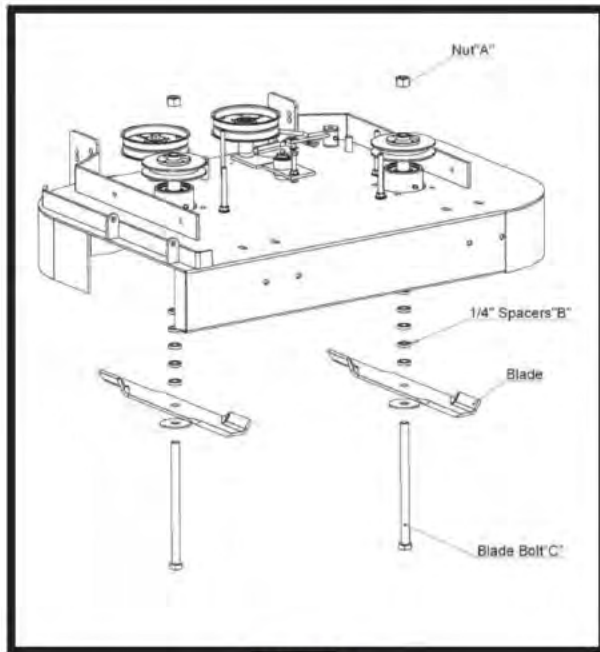
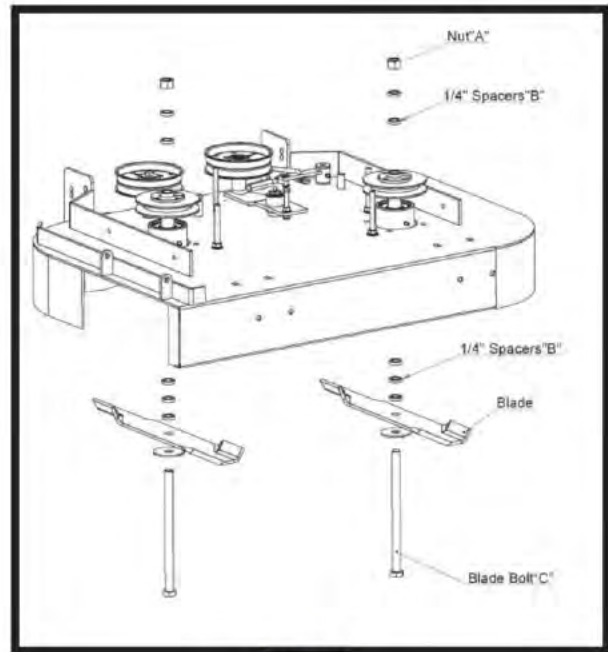

Figure 1
Figure 2
3. Using two (2) 15/16" box end wrenches, use one wrench to loosen nut "A" while holding blade bolt "C" with the other wrench.
5. To raise the blades to the height desired, remove the appropriate amount of spacers from the blade bolt. Example: IF the height of cut needs to be raised 1/2", move two (2) of the 1/4" spacers "B" on each blade from underneath the mower (Figure 1) to the top of the mower (Figure 2).